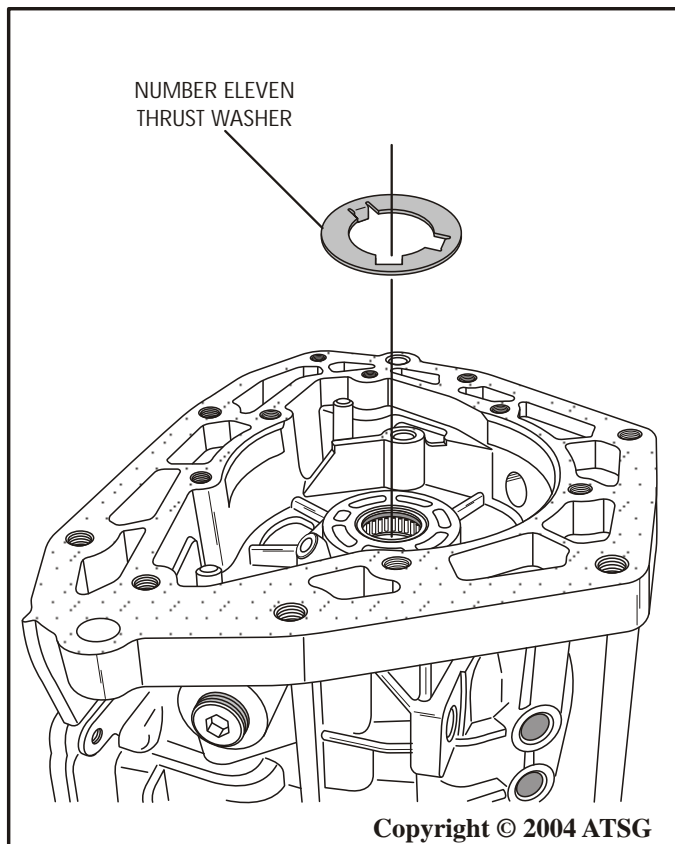

Figure 55
66. Remove and tag for I.D. the park gear thrust washer (No. 11), as shown in Figure 55.